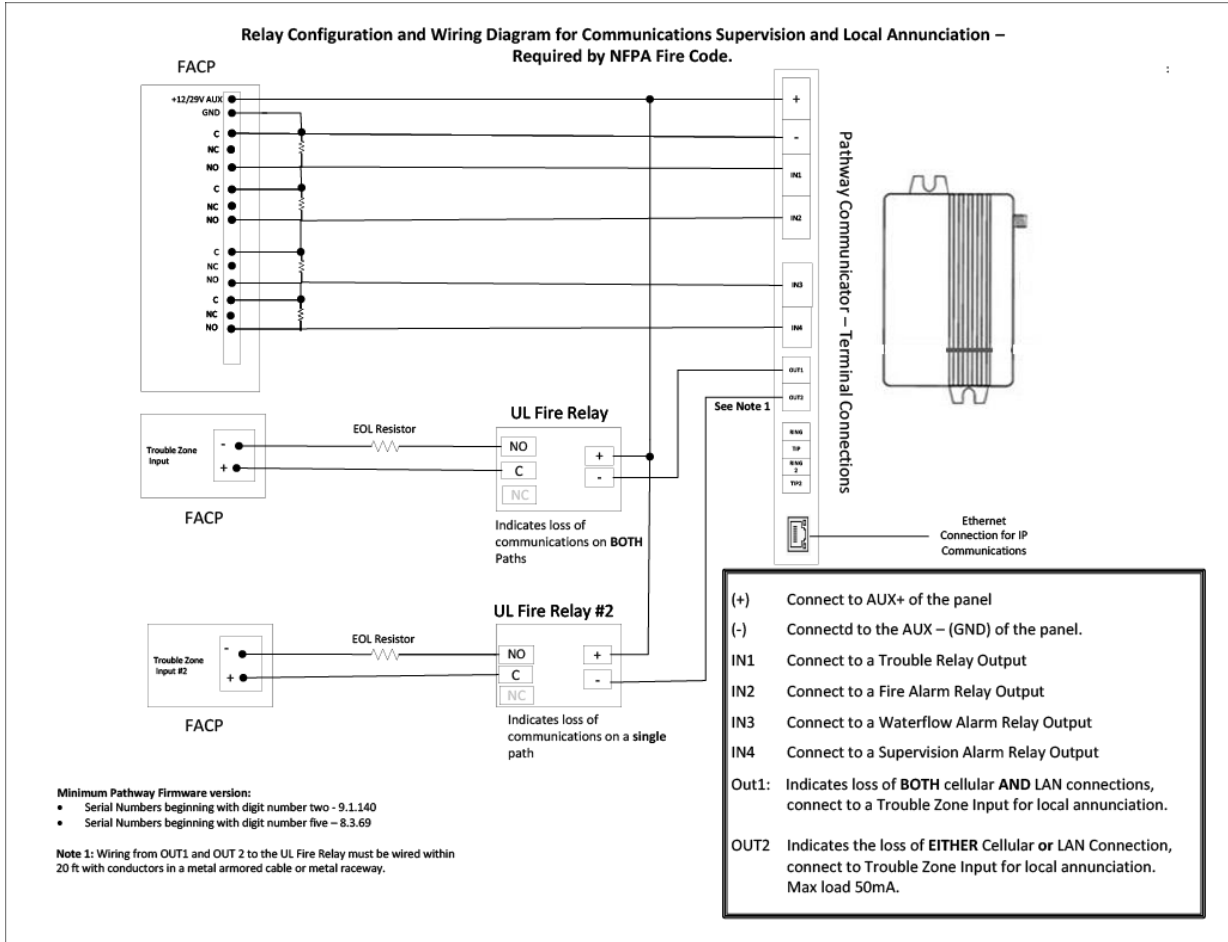

Figure 5-3: Wiring for Dry Contact Relay Monitoring
02. Connect the panel relay terminals and the communicator as specified in Figure 5-3: Wiring for Dry Contact Relay Monitoring.